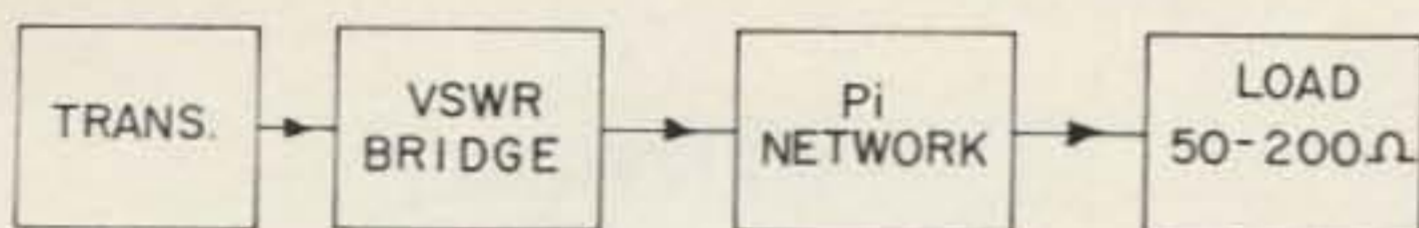

FIG. 2
(Refer to Figure 2)
1. Without the  $\pi$  network connected, set-up the equipment as indicated in Figure 2. Use the 50 ohm load. Tune and load the transmitter for maximum forward and minimum reflected power as indicated on the bridge.